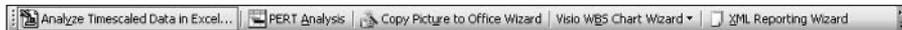

Figure 14-18: The Analysis toolbar.
2. Choose View ⇨ Toolbars ⇨ Analysis. Project displays the Analysis toolbar, as shown in Figure 14-18.